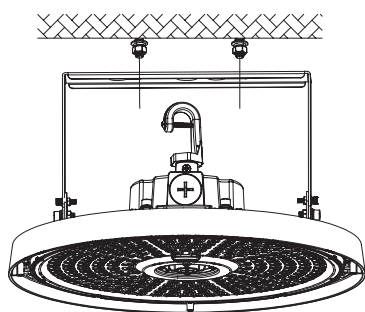
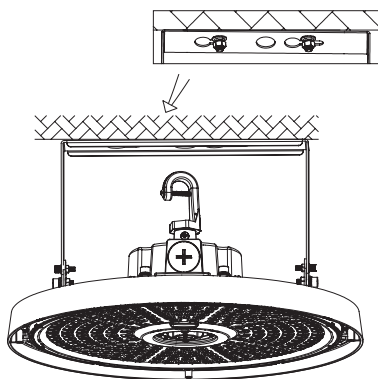

Figure 7
Figure 8
3. Align the bracket holes with the screws (Figure 7), slide the fixture slightly to one side to lock it (Figure 8), then tighten.